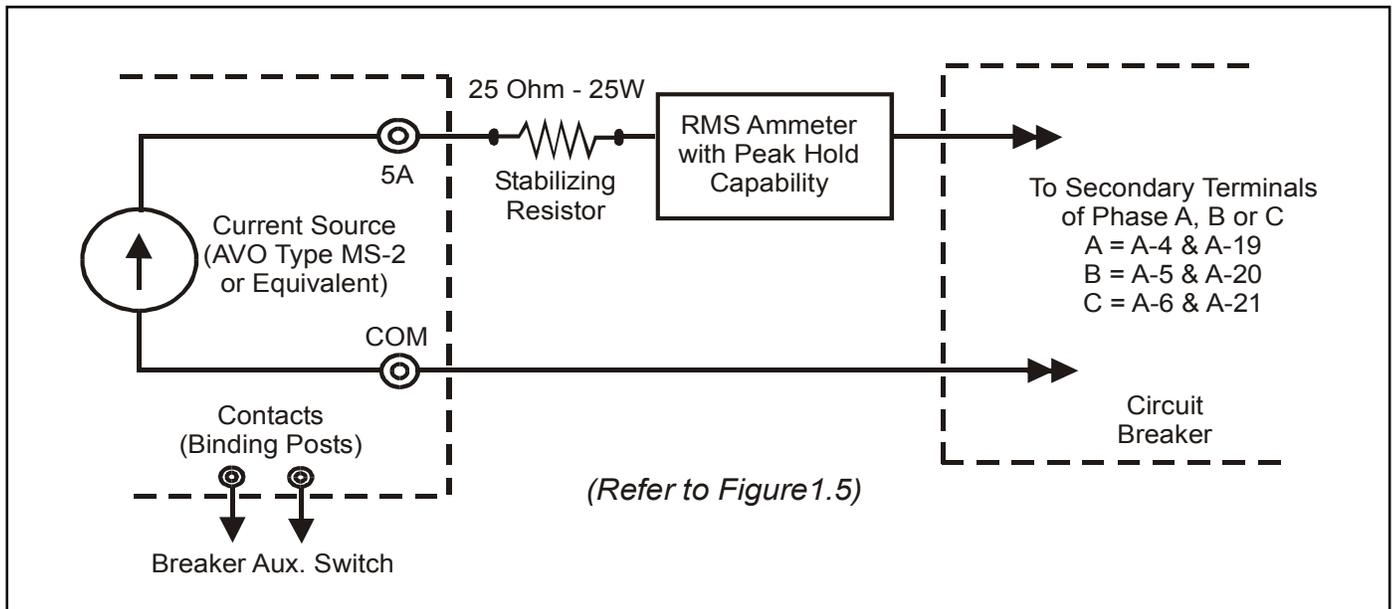

Figure 5.5 Secondary Injection Test Setup
2. For secondary injection tests, a separate True RMS ammeter with a "peak hold" feature is required (See *Figure 5.5*). The built in meter of the MS-2 tester is not True RMS and does not provide an accurate measurement of the secondary injection current. This is because of the trip unit's "chopper" power supply. The peak hold feature will hold the trip current level when an auxiliary switch from the circuit breaker is wired back to the tester's terminals (white posts) labeled *Contacts*.
3. Also when performing low current secondary injection tests (less than 2 Amperes) it is desirable to insert an additional 25 ohm impedance (resistor or inductor) rated at 25 or 50 watts in series with the 5A terminal post. This will provide proper impedance for the "chopper" and is useful in stabilizing the current (See *Figure 5.5*).